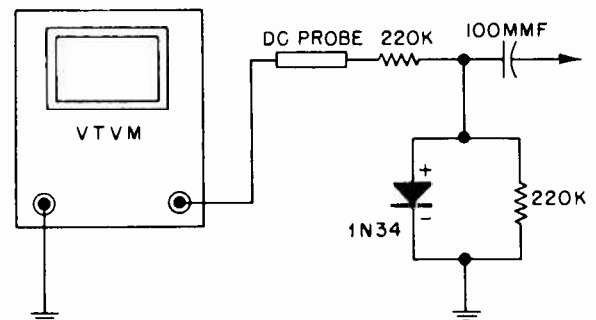

FIGURE 10. ELECTRONIC VOLTMETER CONNECTIONS
3. Connect the voltmeter and a germanium crystal detector, as shown in Figure 10, between the cathode of the picture tube (yellow lead) and chassis.